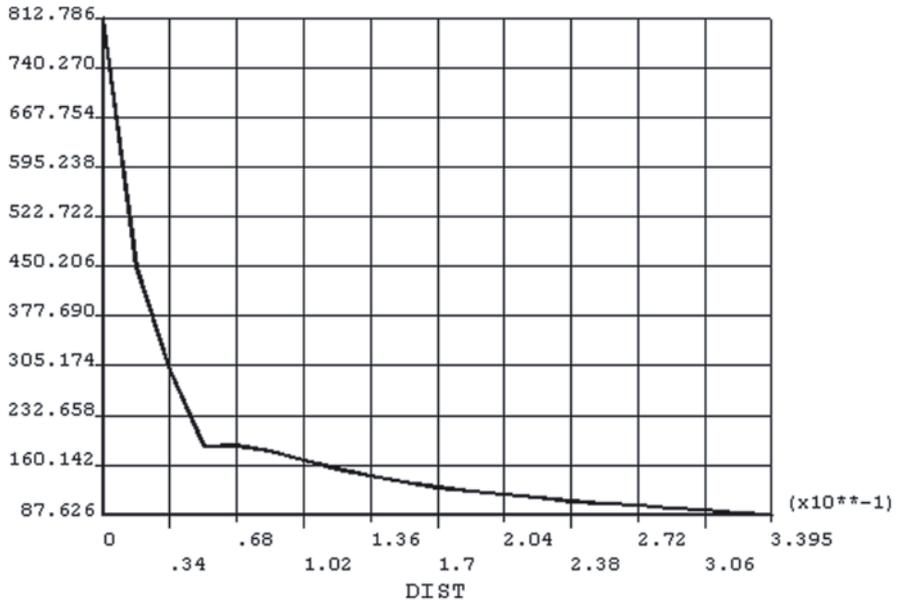
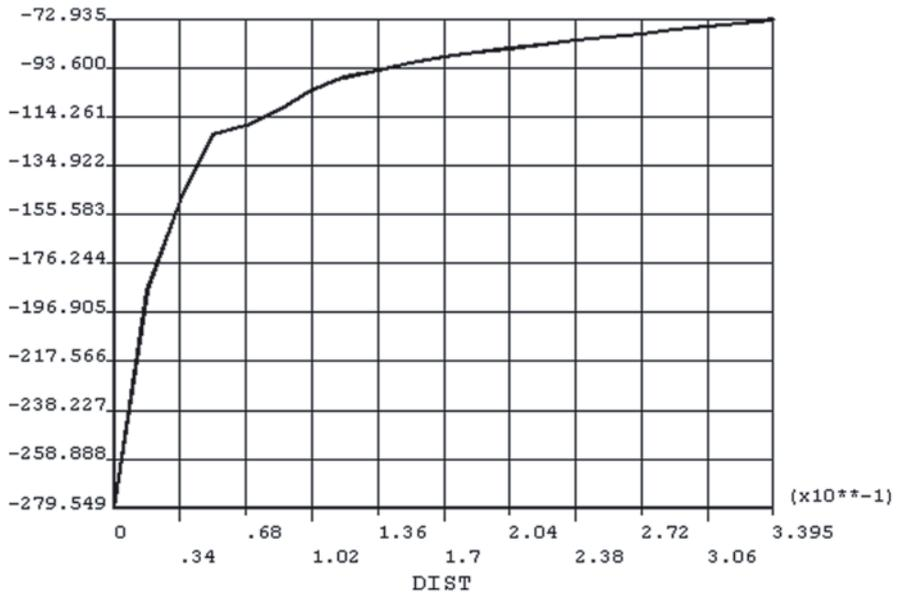

Fig. 8.76 Normal stress σ_y (in coordinate system 11) ahead of the crack tip
Fig. 8.77 Shear stress σ_{xy} (in coordinate system 11) ahead of the crack tip
- *Plot of Path Items on Graph* dialog box appears; select **SY** from the list; click on **OK**. The graph appears in the *Graphics Window*, as shown in Fig. 8.76. Similarly, shear stresses are plotted by selecting item **SXY** in the *Plot of Path Items on Graph* dialog box (shown in Fig. 8.77).